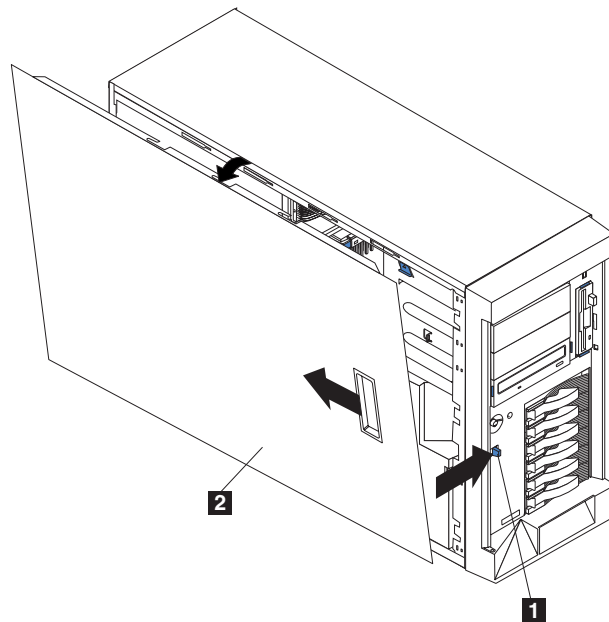

Figure 30. Removing the cover of the Model 25T
3. Push the plastic cover-release latch on the front of the engine in the direction indicated in Figure 30 to release the cover.